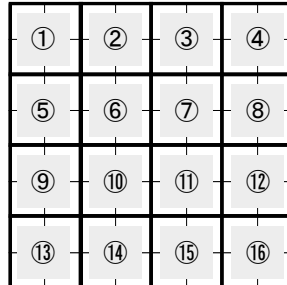

Figure 1-8 Display Location Assigned by MIDI Channel
(3) LED matrix display during melody display (all MIDI channel concurrent display mode)
- The relevant block of the LED matrix is turned on based on the note and channel number information contained in the NoteOn (keystroke) message among the received MIDI messages. The layout of the blocks based on the channel numbers are shown in Figure 1-8.